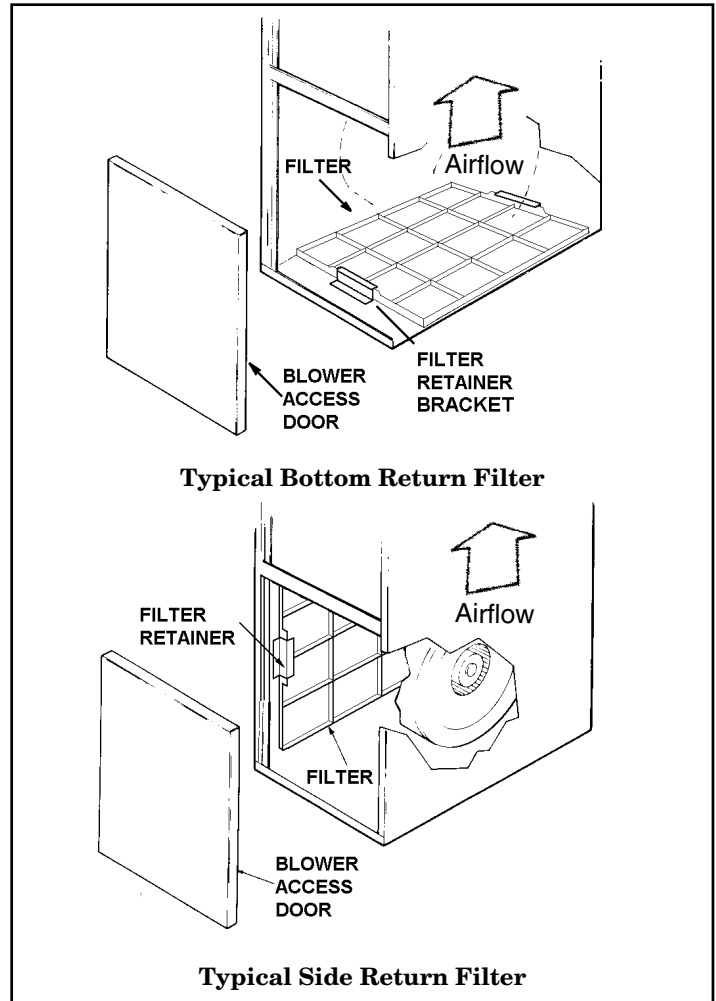

FIGURE 14
6. Upflow furnaces: filter retainer brackets are factory supplied (See Figure 14). Use the filter retainer brackets on either side or on bottom if filter is to be used within the furnace cabinet.
Filters are field supplied for these furnaces. These furnaces require high velocity type air filters which may be located within the furnace blower compartment for UPFLOW furnaces in either a BOTTOM or SIDE (left side or right side) return air inlet. See Figure 14. Some filters may need to be trimmed for side or bottom filter use.
If locating filter inside the furnace blower compartment is desired, it is necessary to install the 2 filter retainer brackets. Filter retainer brackets are shipped with the furnace in a plastic bag attached to the control platform. Follow the installation instructions included inside the plastic bag with the filter retainer brackets. (See Figure 14 “Typical Side Return Filter”).